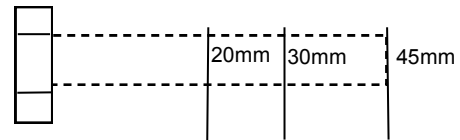

Figure 2
4. Verify all parts are in the hardware bag (Figure 2)